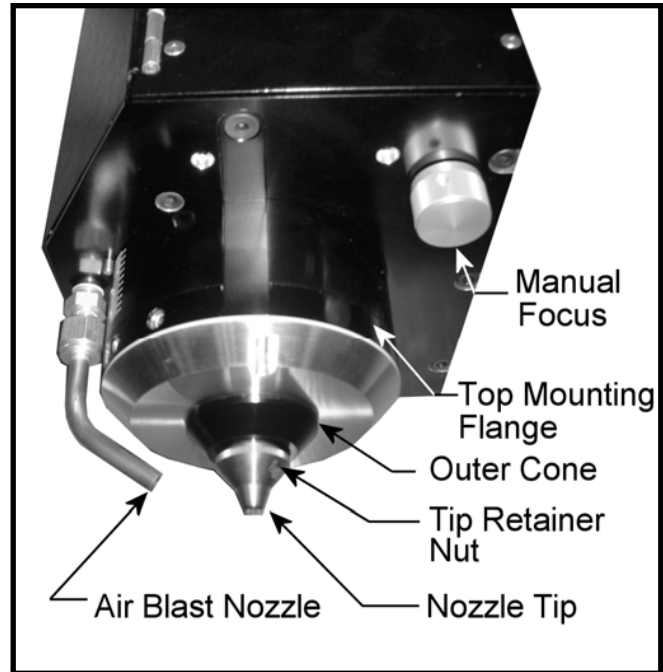

FIGURE 9-7 Auto Focus Lower Tip
2. Unscrew the tip retainer nut and remove the nozzle tip. Use the nylon or wire brush to remove all debris. Be careful not to remove the black anodized coating from the Outer Cone (see Figure 9-7)